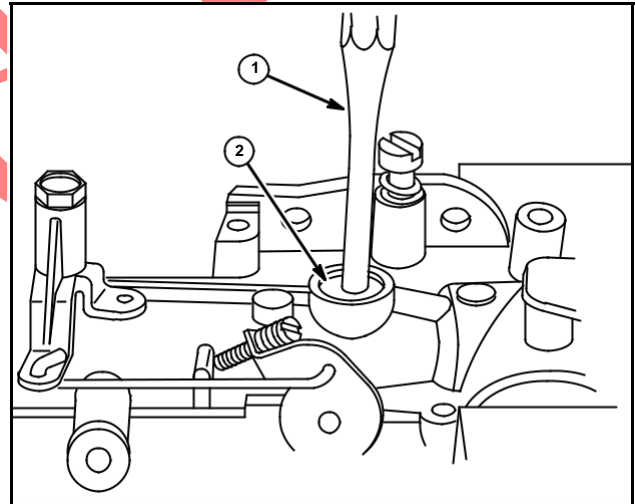

Fig. 76
2. With a 1/4" dia. (.64 mm), or larger, pin punch (1), set welch plug with pin punch in center of plug. Do not collapse plug, Fig. 76.